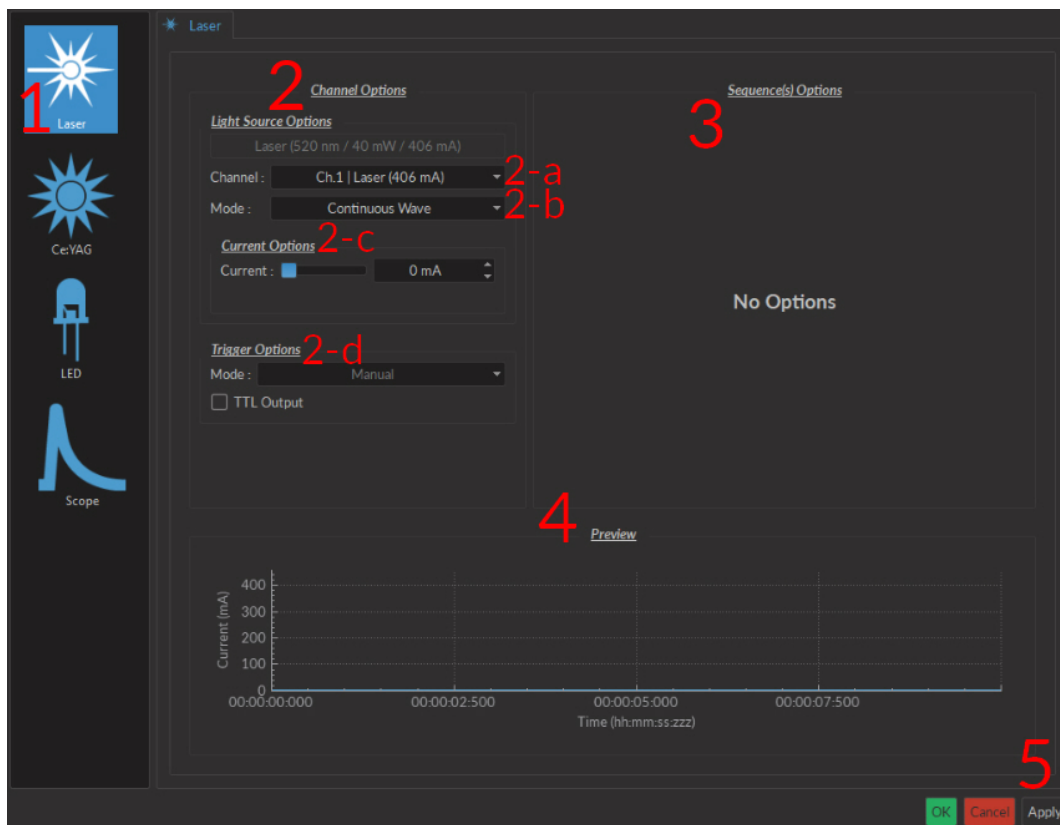

Figure 3.2: Light Source Channel Configuration Window
Each light source driver is separated into a number of **Channels**. Each channel controls a single light source. While each channel can be controlled in **Stand-alone** mode by the driver, additional functions can be accessed for these channels when the driver is connected to the Doric Neuroscience Studio. These function are used through the **Channel Configuration** window (Fig. 3.2).
1. The **Channel Types** (Fig. 3.2) are displayed on the left side of the window. These include **Laser** light sources, **Ce:YAG** light sources and **LED** light sources, as well as the **Scope** to measure signal using the driver.
2. The **Channel Options** box (Fig. 3.2) includes **Light Source Options** and **Trigger Options** for the given channel.
- a) The **Channel** (Fig. 3.2) drop-down list identifies which driver channel is currently being edited, assuming a driver with multiple channels.
- b) The **Mode** (Fig. 3.2) drop-down list includes each possible driver mode. These are used to control the pulse sequences emitted by the light source. The options related to this mode are detailed with the **Sequence Options**.
- c) The **Current Options** (Fig. 3.2) includes the slider used to control the current sent to the light source.
- d) The **Trigger Options** (Fig. 3.2) allow the selection of a number of trigger modes to activate a pulse sequence.
3. The **Sequence options** box (Fig. 3.2) is where sequence options are defined depending on the mode. The **Continuous wave**, **External TTL** and **External Analog** modes have no additional sequence options.
- The **Preview** box (Fig. 3.2) displays a preview of the chosen sequence while in the **Continuous Wave**, **Square Sequences** and **Complex Sequences** mode.
- The **Apply** button (Fig. 3.2) will generate the defined channel OR update an already configured channel with any changes.